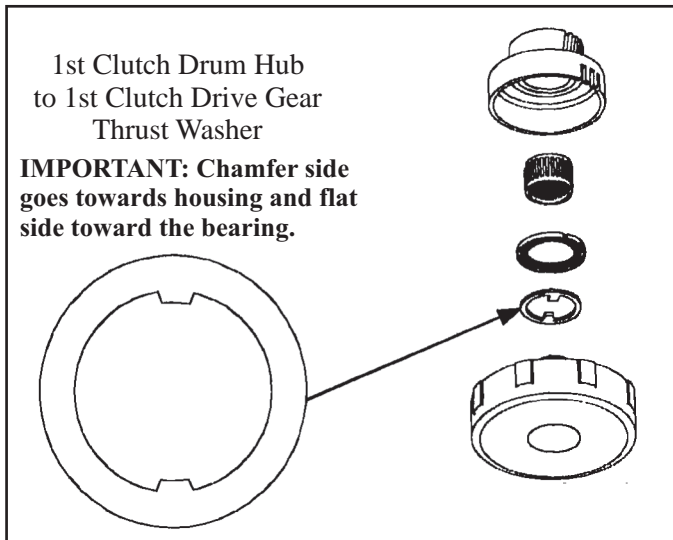

Figure 123
2. Install the single sided needle bearing thrust washer with the needle bearings facing the washer (See Figure 123).
3. Install the split caged needle bearing onto the first clutch drum hub (See Figure 123).
4. Index the 1st drive gear to the internally splined fiber plates by rotating the gear back and forth until the gear bottoms out on the needle bearing thrust washer (See Figure 123).